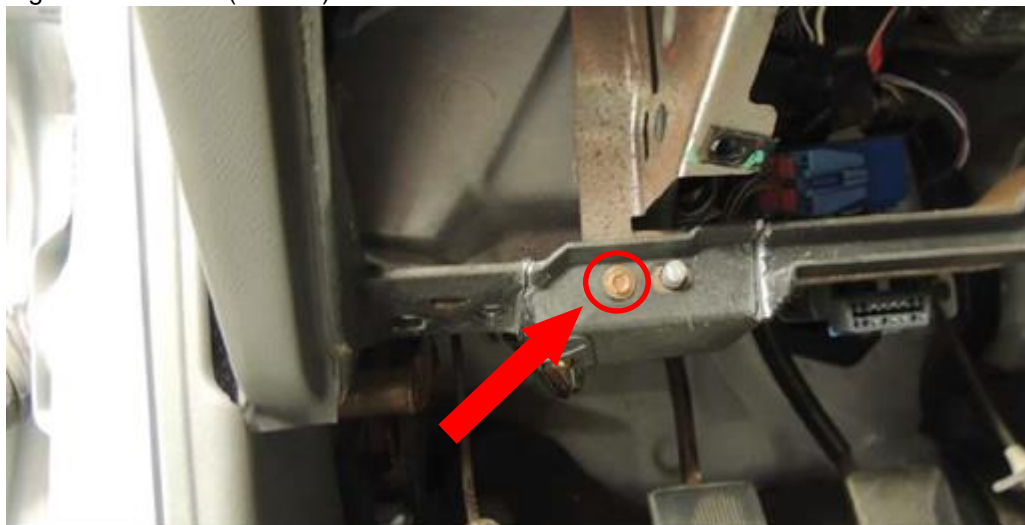

FIGURE 14
13. Reinstall the piece of instrument panel substrate that was previously cut out and install the retainer. See Figure 14.